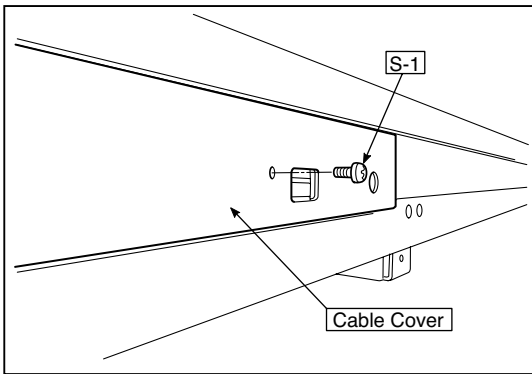

Fig.1
1) Remove the Main Board Assy. (See Figs. 1 and 2.)
- 1.Remove the "S-1" screws shown in the figure 1 and then remove the Cable Cover.